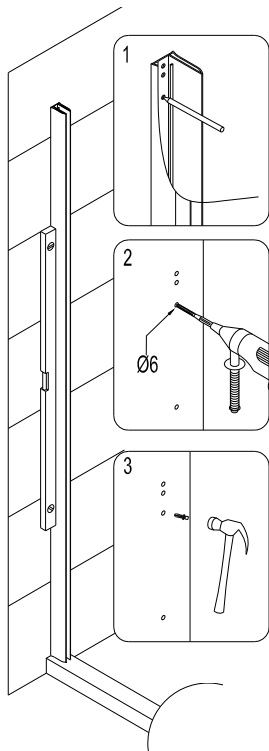

Fig 1
1. Locate the **Wall profile for stationary glass (1)** and place it vertically against the finished wall. Adjust the profile using a level. Use predrilled holes in the aluminum profile to mark holes for drilling. Now drill holes in the wall and insert the **Wall anchor (15)** into the hole. See Fig 1 for details.